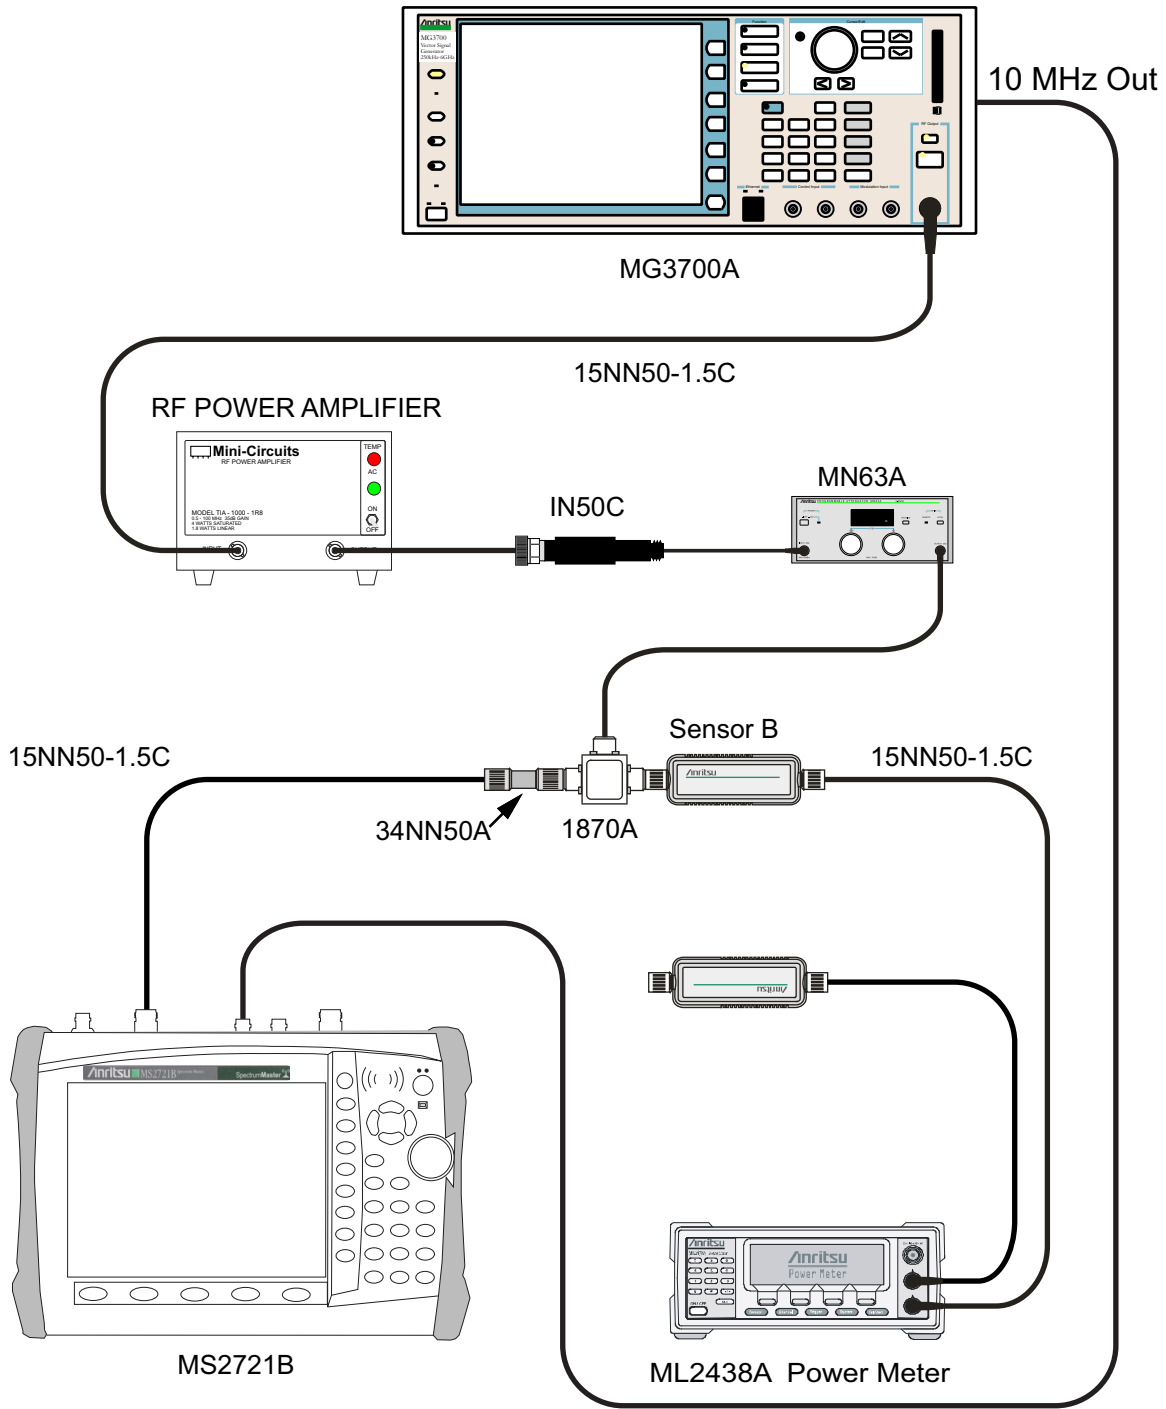

Figure 3-24. DVB-T/H Option 64 – 1 dB Compression Level Verification – Sensor B Only
13. Remove Sensor A from the splitter and connect the MS2721B RF In port to the open end of the splitter using an adapter as shown in Figure 3-24.
45. Remove Sensor A from the splitter and connect the MS2721B RF In port to the open end of the splitter using an adapter as shown in Figure 3-24, “DVB-T/H Option 64 – 1 dB Compression Level Verification – Sensor B Only” on page 3-88.
54. Remove Sensor A from the splitter and connect the MS2721B RF In port to the open end of the splitter using an adapter as shown in Figure 3-24, “DVB-T/H Option 64 – 1 dB Compression Level Verification – Sensor B Only” on page 3-88.